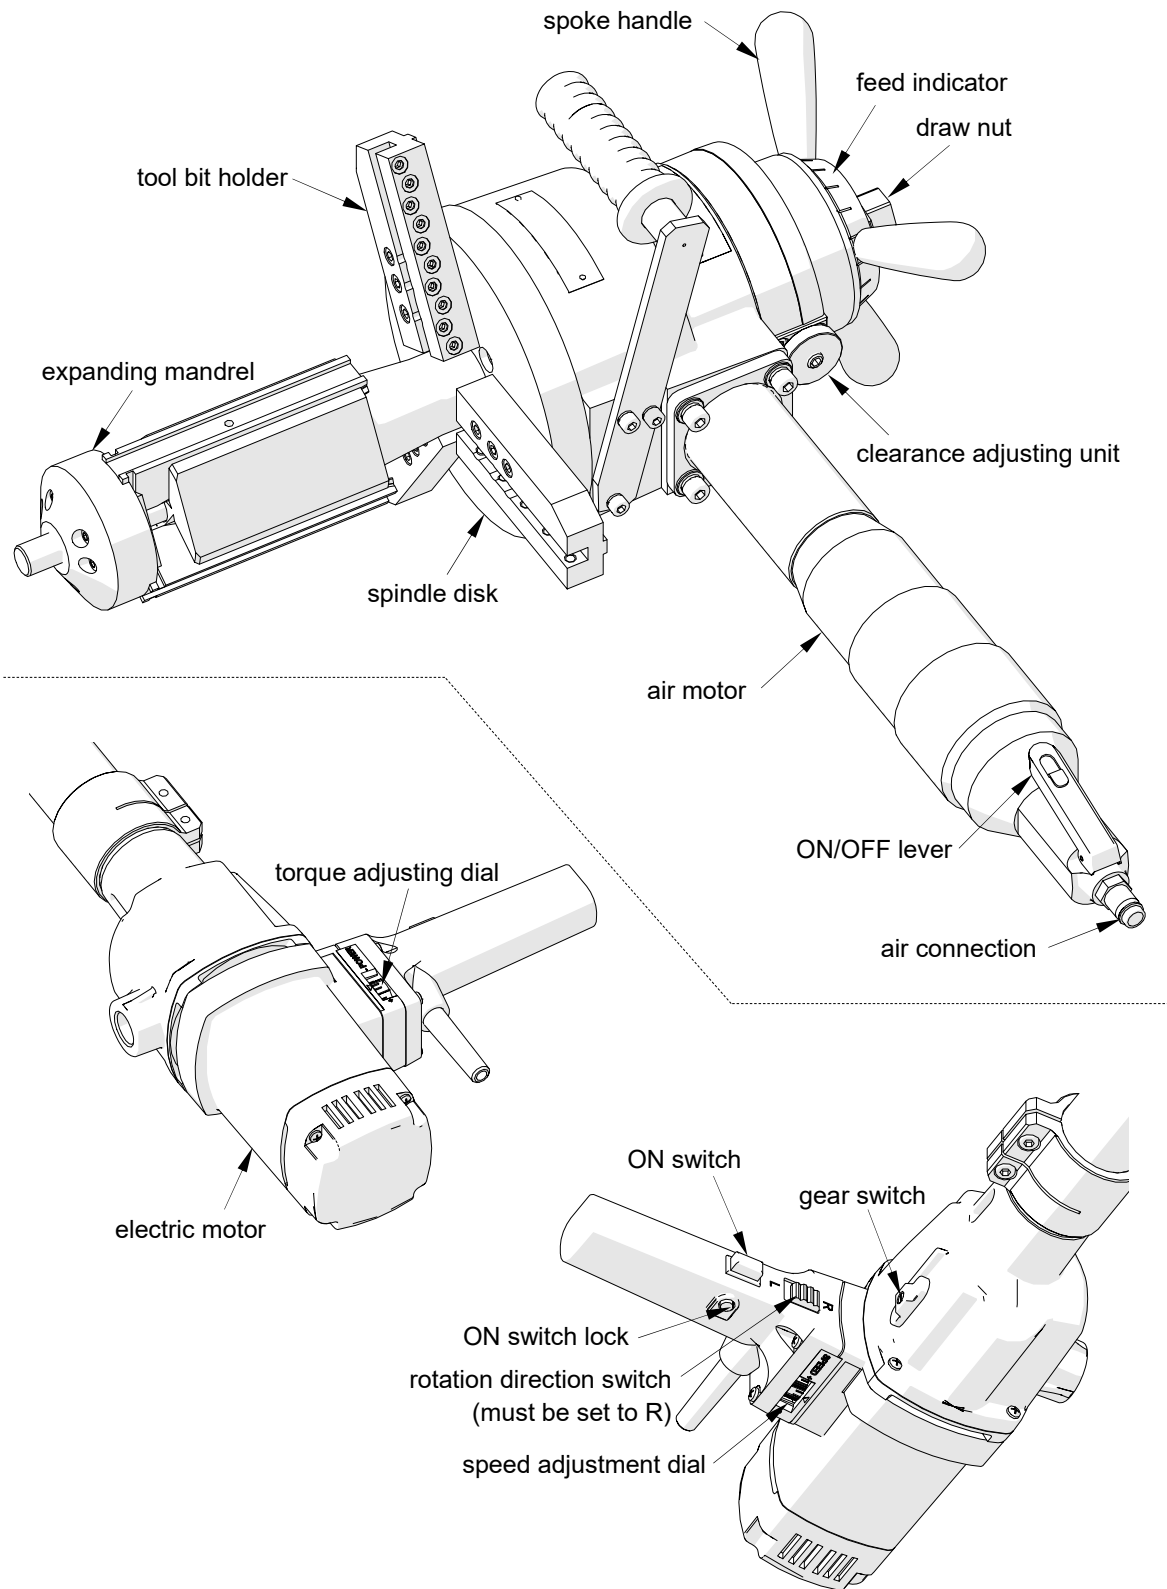

Fig. 1. Design of PB-10 and of PBE-10 electric motor
To mount the electric motor, insert the MT3 arbor into the motor (4, Fig. 4b), and hit the arbor to position it tightly using a mallet. Put the clamping ring (5) onto the motor, then mount entirety into the machine (6) by placing the arbor in the socket 2, and tighten the clamping ring using the 6 mm hex wrench (7). Finally, set the rotation direction switch in position R as in Fig. 1.